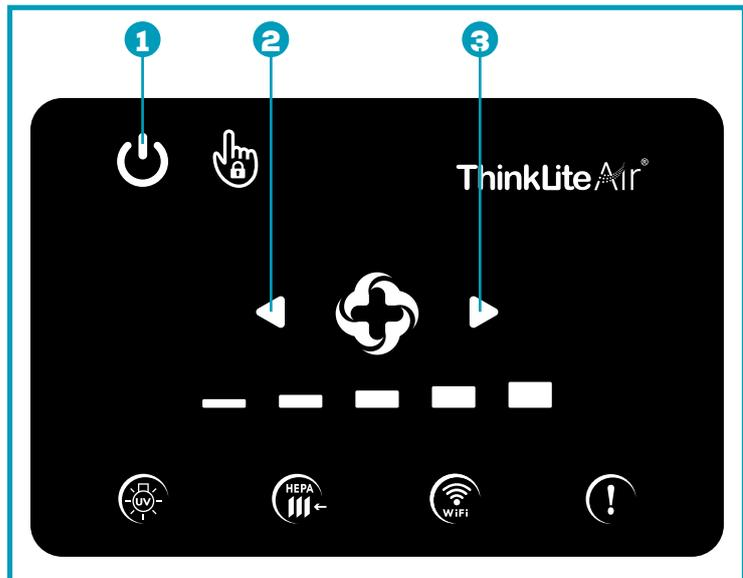

Figure 9
The control panel – touch screen consists of three active touch icons and informative icons, with different colours indicating different units status (Figure 9).
ON/OFF switch (Figure 9, pos. 1)
Fan speed Down (Figure 9, pos. 2)
Fan speed Up (Figure 9, pos. 3) of the main fan, to set up proper air flow.